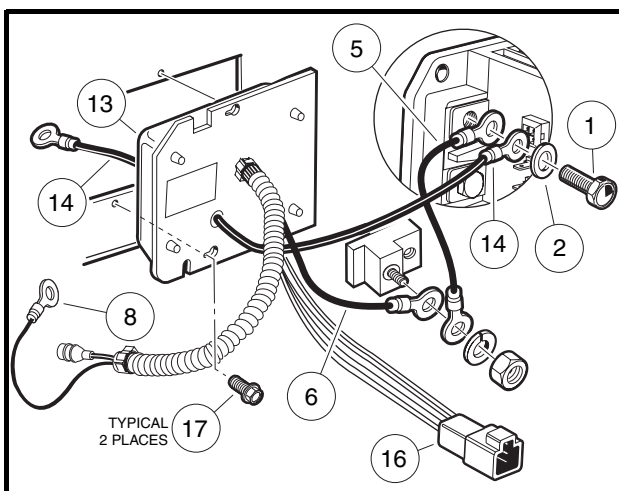
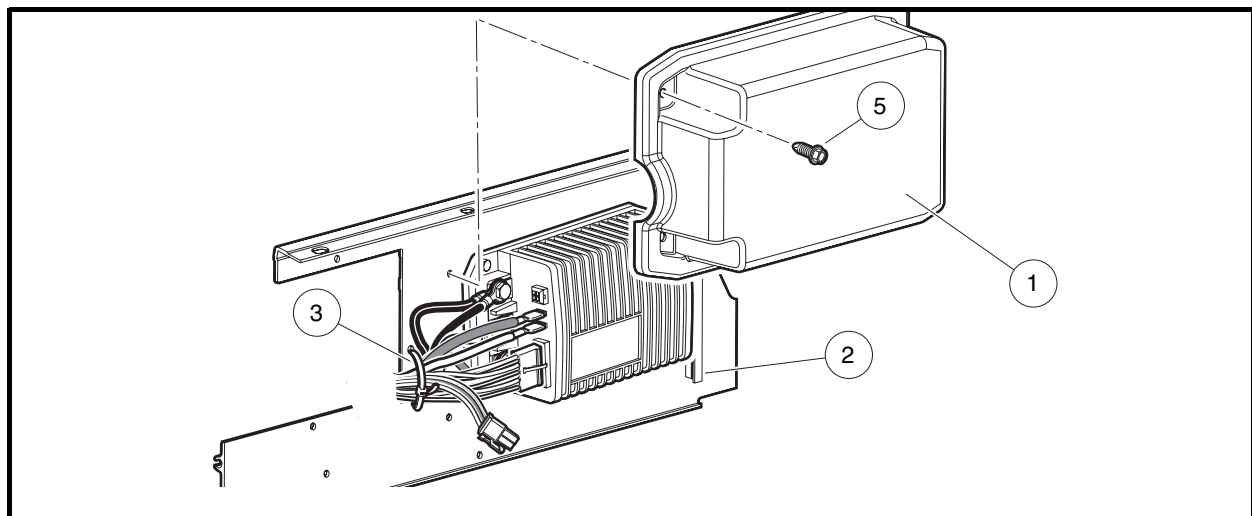

Figure 19-6 Onboard Computer
Figure 19-7 Speed Controller Cover
2. Remove rear body access panel and unplug the six-pin connector (16) at the OBC (**Figure 19-6, Page 19-7**).
3. Remove the two screws (5) from the speed controller cover (1) and remove the cover (**Figure 19-7, Page 19-8**).
4. Remove the wire tie (3) securing the speed controller wires to the mounting plate.
5. Remove black 6-gauge wire (14) and black 10-gauge wire (5) from the speed controller B- terminal (**Figure 19-6, Page 19-7**).
6. Remove the black 10-gauge wire (6) from the accessory mounting terminal.
8. Disconnect the black 10-gauge wire (8) at the charger receptacle.
10. Loosen, but do not remove, the two self-tapping screws (17) holding OBC to component mounting plate.
11. Slide OBC towards outside of vehicle and align heads of self-tapping screws (17) with the two holes in the OBC face plate. Pull OBC towards rear of vehicle and remove from component mounting plate.
3. Install the OBC onto the component mounting plate by aligning the two holes on the OBC face plate with two holes on component mounting plate. Slide OBC towards inside of vehicle and align heads of self-tapping screws (17) with smaller part of two holes in OBC face plate (**Figure 19-6, Page 19-7**). Tighten screws to 60 in-lb (6.7 N·m). **See following NOTE.**
5. Connect the black 10-gauge wire (8) to the charger receptacle (**Figure 19-6, Page 19-7**). Tighten to 23 in-lb (2.6 N·m).
7. Connect the black 10-gauge wire (6) to the accessory mounting terminal. Install the nut on the accessory terminal and tighten to 9 ft-lb (12.2 N·m).
8. Connect the black 6-gauge wire (14) and black 10-gauge wire (5) to the speed controller B- terminal with the washer (2) and bolt (1) and tighten to 9 ft-lb (12.2 N·m) (**Figure 19-6, Page 19-7**).
9. Plug the six-pin connector (16) from the OBC into the vehicle wire harness.
10. Install a wire tie (3) to tightly secure the speed controller wires to the component mounting plate (**Figure 19-7, Page 19-8**).
11. Place the edge of the speed controller cover (1) into the slot (2). Press the controller cover onto the component mounting plate over the speed controller and install the two screws (5) (**Figure 19-7, Page 19-8**). Tighten the screws (5) to 60 in-lb (6.8 N·m). **See following NOTE.**
3. Place the edge of the speed controller cover (1) into the slot (2). Press the controller cover onto the component mounting plate over the speed controller and install the two screws (5) (**Figure 19-7, Page 19-8**). Tighten the screws (5) to 60 in-lb (6.8 N·m). **See following NOTE**.